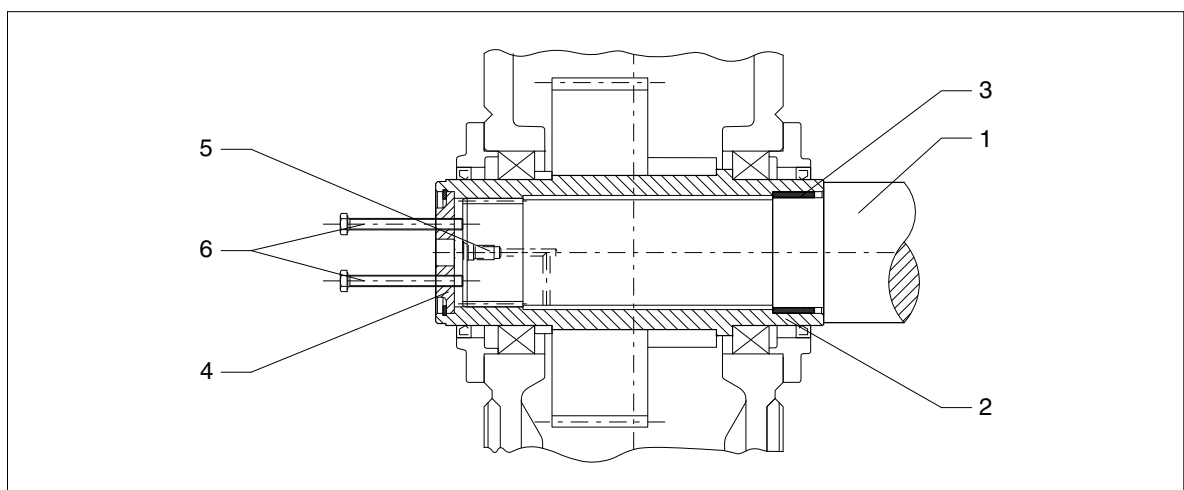

Fig. 54: Hollow shaft with internal spline, demounting with end plate
- using forcing screws in an end plate (see figure 54) or